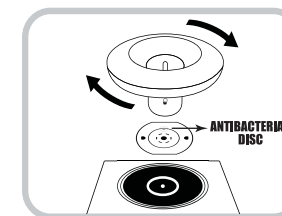

Fig.1
2. Remove the Funnel by turning it clockwise or counter-clockwise depending on the model. Make sure the Hot Water Funnel (semi-transparent plastic piece) is firmly sitting on the metal prong of the tank and the Antibacterial disc is adhered to the top surface of the Hot Water Funnel (Fig. 1)